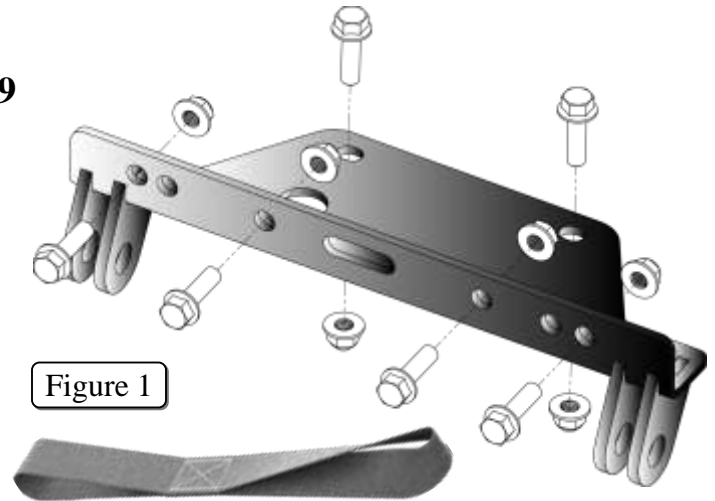

Figure 1
4. Install mount plate using 1" bolts (C) and nuts for the front of the mount and 1 1/4" bolts (D) and nuts for rear portion as shown in Figure 1 & 5.